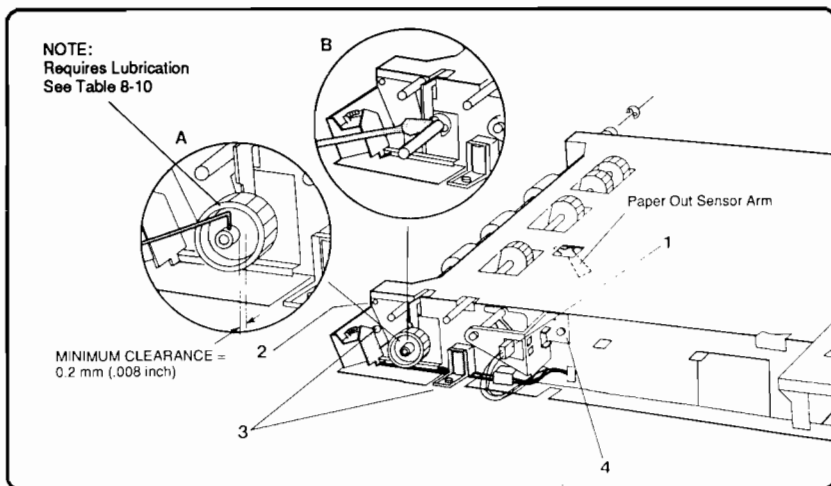

Figure 6-12. SL2 and SL3 Removal
Note the 0.2 mm (0.008 in) gap requirement to prevent clutch binding (see Figure 6-12, detail A).
7. Remove the E-clip (see Figure 6-12, detail B).
8. Unplug the cable connector from PS6 (Figure 6-12, callout 1).
9. Remove the screw (1) securing the Input Solenoid (SL3) Bracket to the base (see Figure 6-12, callout 2).
10. Remove the screw (1) securing each solenoid (SL2 and SL3) to its bracket (see Figure 6-12, callout 3).
11. Note the position of the Paper Out Sensor Arm and the cable to the LC Feed Solenoid, then remove the screw (1) securing the Paper-Out Photosensor (PS6) Bracket to the base (Figure 6-12, callout 4). Remove the solenoid cable assembly .